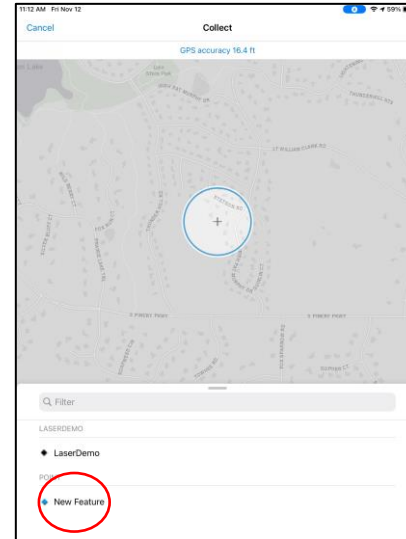

Figure 6
6. Open your Map and choose to **+ Add** a Point feature (Figure 6)